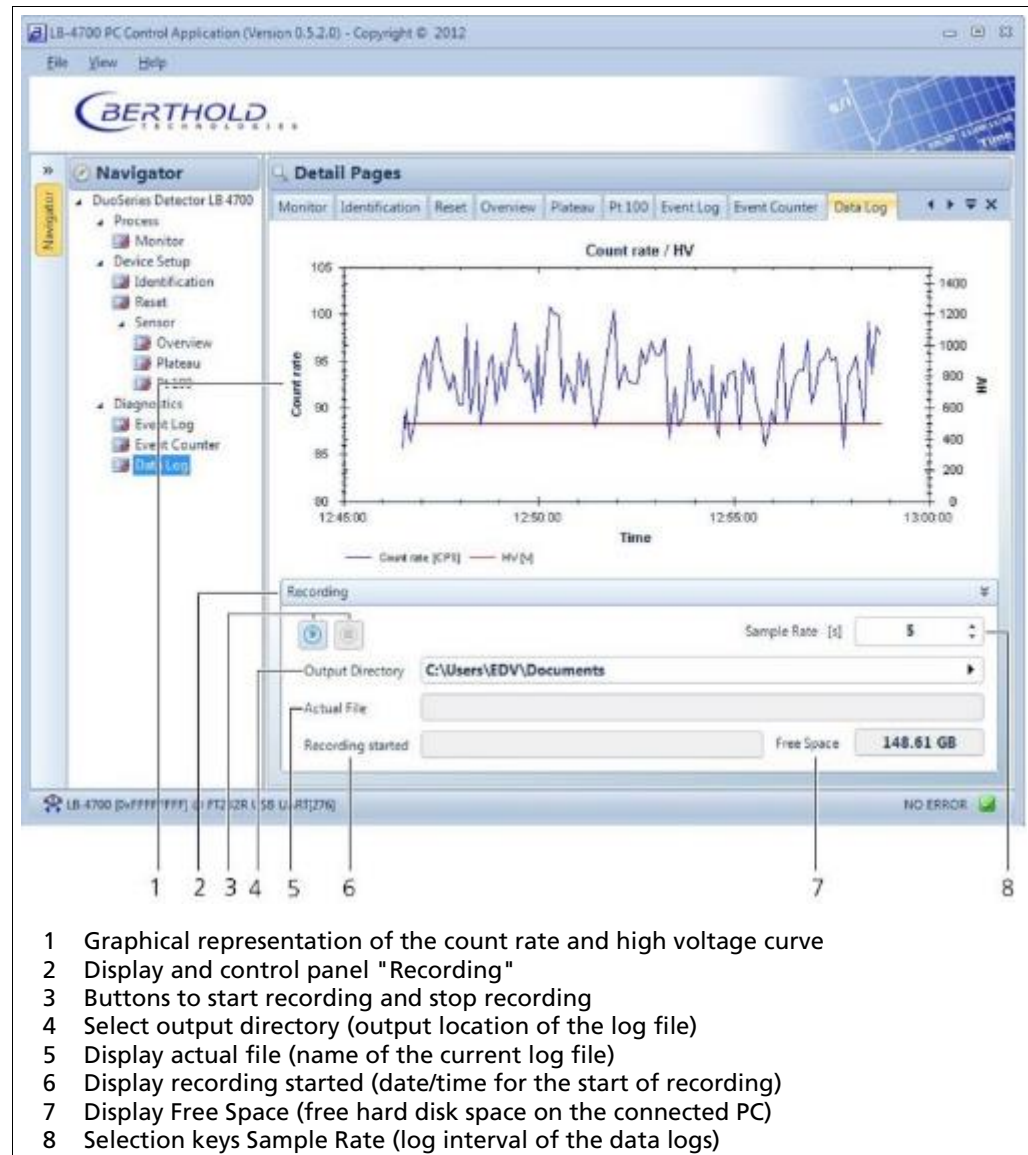

Fig. 48      Diagnostics | Data Log
Open the submenu Event Log in the menu group Device Setup | Diagnostics of the navigator by double-clicking on <Event Log> (Fig. 48). The submenu "Event Log" logs the last 25 events that have occurred with date, time and description.
1. If you want to clear the event list, click <Clear> (Fig. 48, item 3).
2. In order to print the event list, click <Print> (Fig. 48, item 4).
3. Click <Refresh> (Fig. 48, item 5), in order to load the list of events from the detector.
4. Click <Acknowledge> (Fig. 48, item 6), when an event requires an acknowledgement.